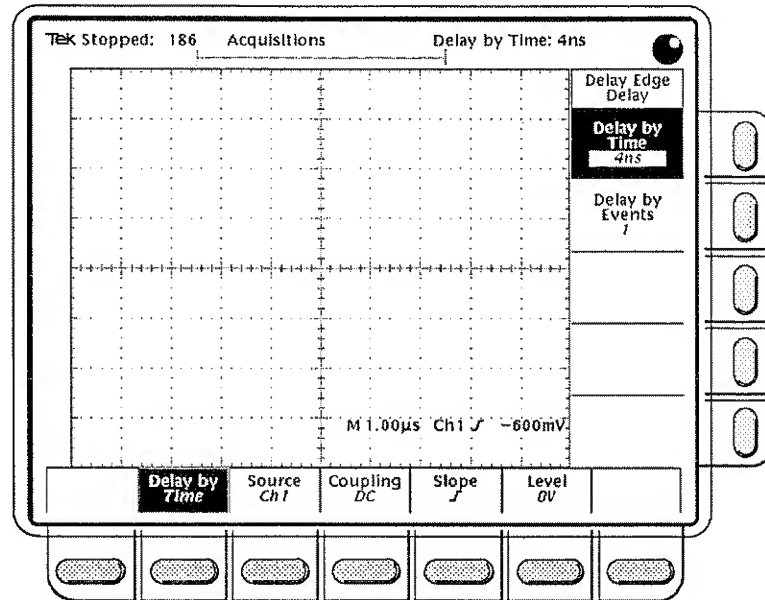

Figure 3-6: Delayed Trigger Menu
- ☐ **Step 1:** Press the **DELAYED TRIG** button (**SHIFT** and **TRIGGER MENU** buttons) to bring up the Delayed Trigger menu (Figure 3-6).
- ☐ **Step 2:** Press the main menu **Delay by** item to select, from the side menu, a time (**Delay by Time**) or an event-based (**Delay by Events**) delay (Figure 3-6).